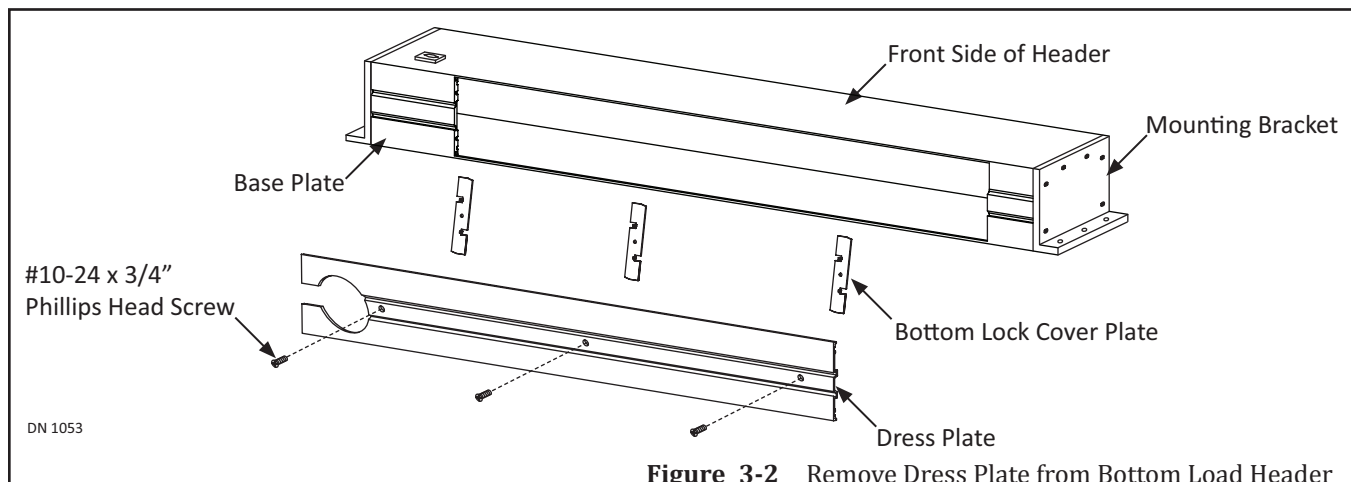

Figure 3-2 Remove Dress Plate from Bottom Load Header
2. Remove #10-24 x 3/4 inch screws and Dress Plate. Set aside. Please see Figure 3-2.